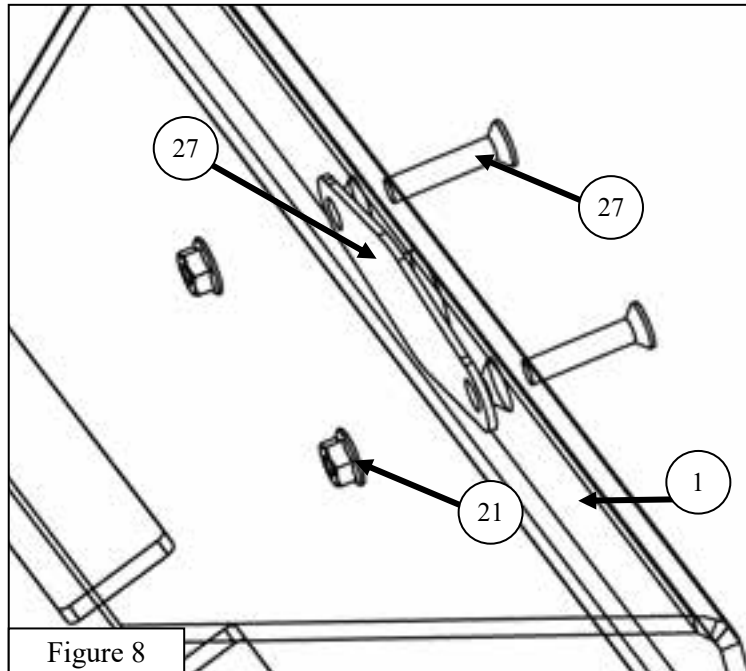
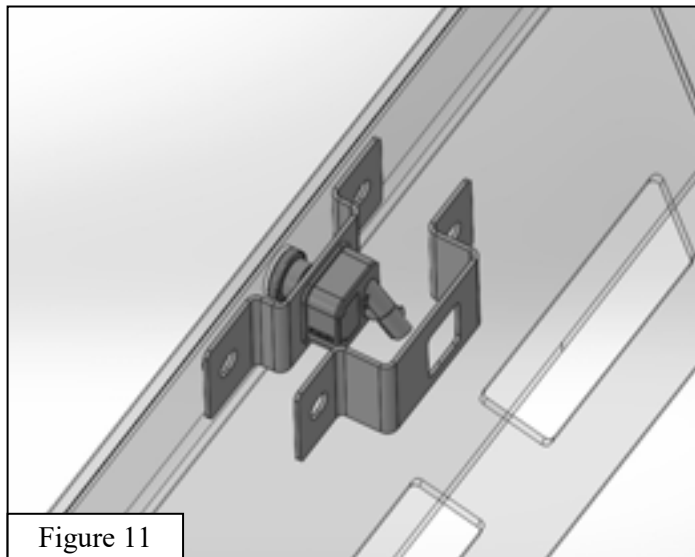

Figure 8
Figure 11
10. If camera is not installed, loosely install the camera holder cover (Item 13) to the bumper (Item 1) using (2) M6 Flat Head hardware (Items 27 and 21). Once loosely installed, tighten all the hardware. See **Figure 8**.
- Once aligned, align the inner camera holder to the screw holes and loosely mount the three parts to the bumper using the (2) M6 Flat head hardware (items 27&21) See **Figure 8** for hardware placement. Once everything is mounted correctly tighten the bolts. See **Figures 11**.